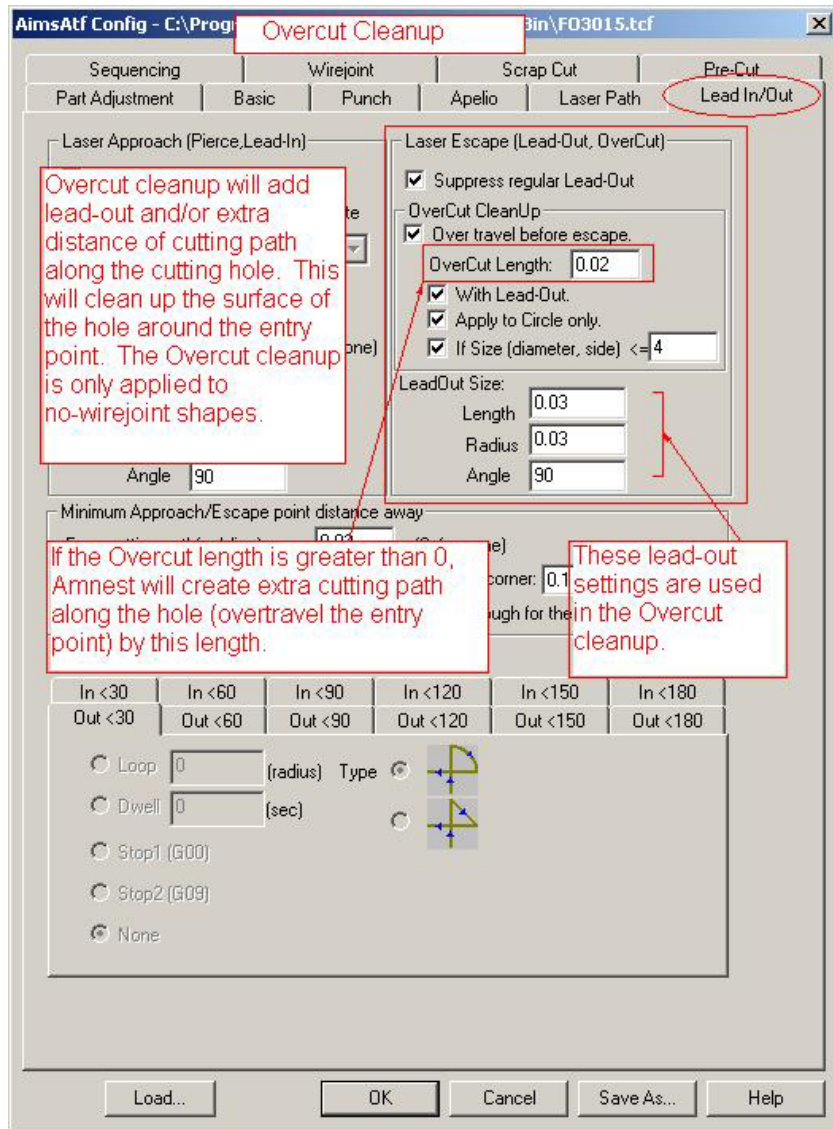

Figure 8.
5. Option to create Over-Cut and/or Lead-Out to clean up surface of pin holes. (See Figure 8.)